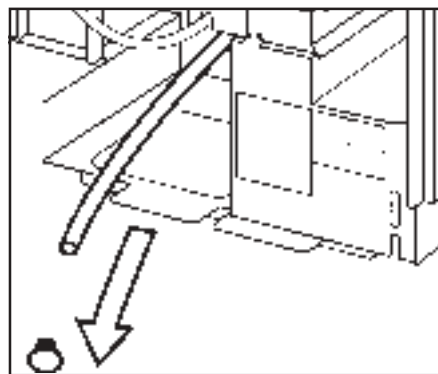

Fig. 16: Draining the boiler
7. Carefully remove the drain plug behind the waste bucket (see fig. 16) towards the front.